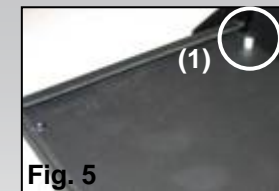
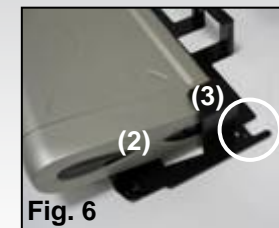

Fig. 5
Fig. 6
- 1) Open the DataBox Allround XL and the printer lid. There are two holders on the rear side of the printer lid (Fig. 5 (1)). These are designated „QuickFix“ mounts.
- 2) The printer must first be shoved into the „QuickFix“ holder (Fig. 6 (2)). Please make sure that the printer is safely mounted in the holder. The holder with the printer is then placed on the printer lid and connected to the other holders (Fig. 5 (1)). In doing so, the grooves of the „QuickFix“ holder (Fig. 6 (3)) must be fully inserted into the holders on the printer lid.
A removable lid (Fig. 6 (3)) closes the storage space for power supply units and protects it inside the DataBox Allround XL. Place the power supply units that belong to your Notebook and printer into this compartment. Lead the cables through the left and right sides of the lid (Fig. 6 (3)) to Notebook and printer. Close the compartment by placing the lid back on top. Connect the power plugs to two of the three supplied cables within the DataBox Allround XL. (The third cable is not used)